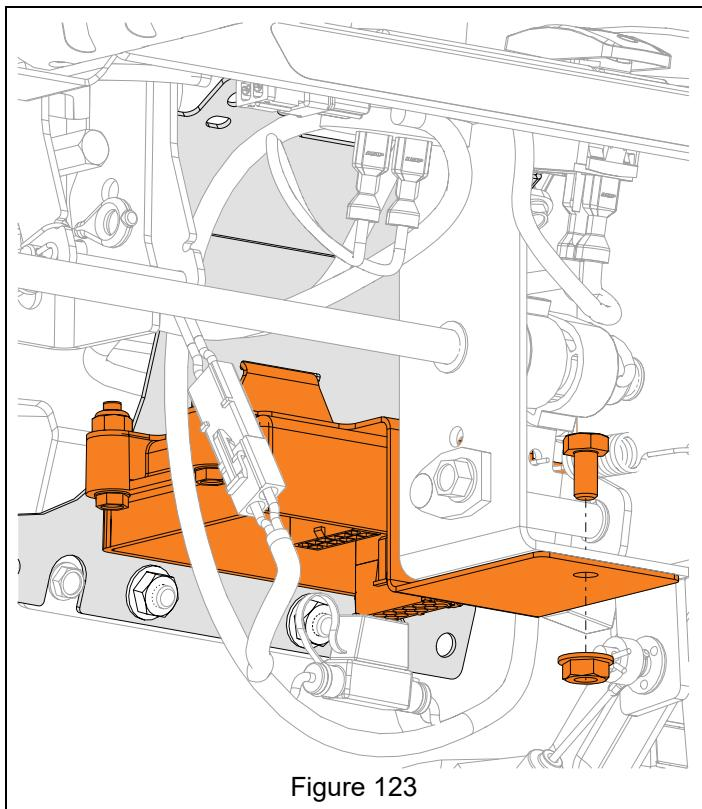

Figure 123
4. Reinstall ECU and secure to control panel with original hardware. See Figure 123.
2. Secure ECU bracket to control panel with original hardware. See Figure 123.